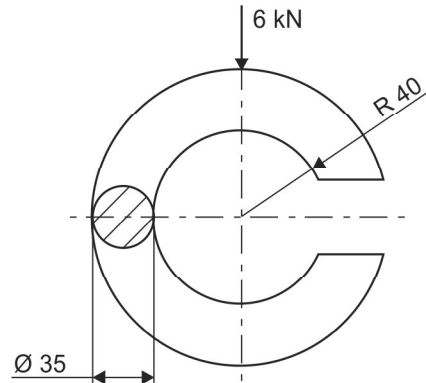

Fig. M1.8
12. Calculate the stresses at the points A and B for a circular beam as shown in Fig. M1.8. The circular beam is subjected to a compressive load of 6 kN.